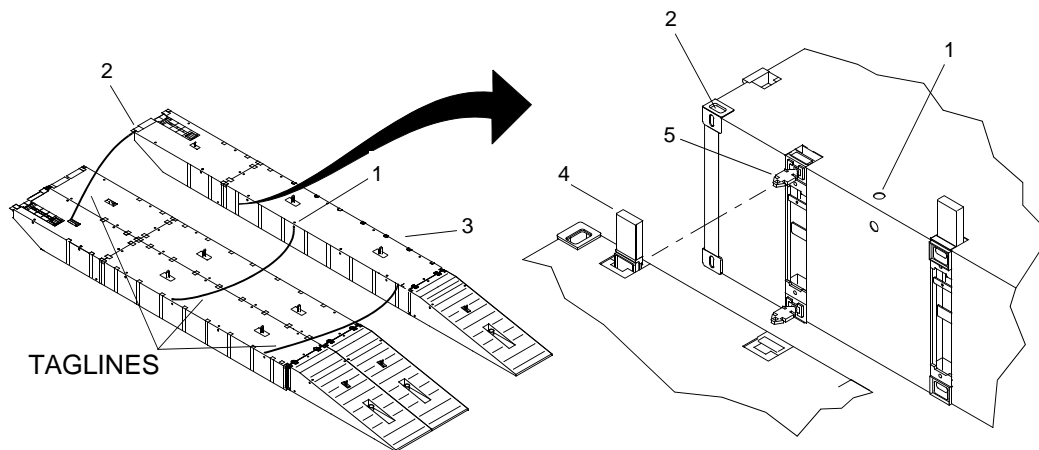

Figure 19. Assembly of Combination Beach/Sea End Section in Water
- Attach tag lines to turn tubes (figure 19, item 1) and ISO corner fittings (figure 19, item 2).
2. Using tag lines, maneuver module strings (figure 19, item 3) so that female connectors (figure 19, item 4) align with male connectors (figure 19, item 5).